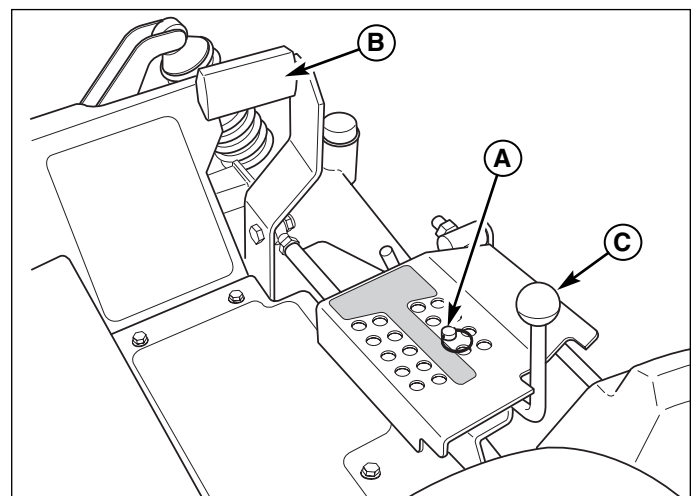

Figure 35. Mowing Height Adjustment
The cutting height adjustment pin (A, Figure 35) controls the mower cutting height. The cutting height is adjustable between $1\text{-}1/2\text{''}$ (3,8 cm) and 6'' (15,2 cm) in $1/4\text{''}$ (0,64 cm) increments.
1. Depress the deck lift foot pedal (B, Figure 35) until it locks into the 6'' (15,2 cm) position.
3. Depress the deck lift foot pedal then push the lock lever (C) towards the right to release the lock.